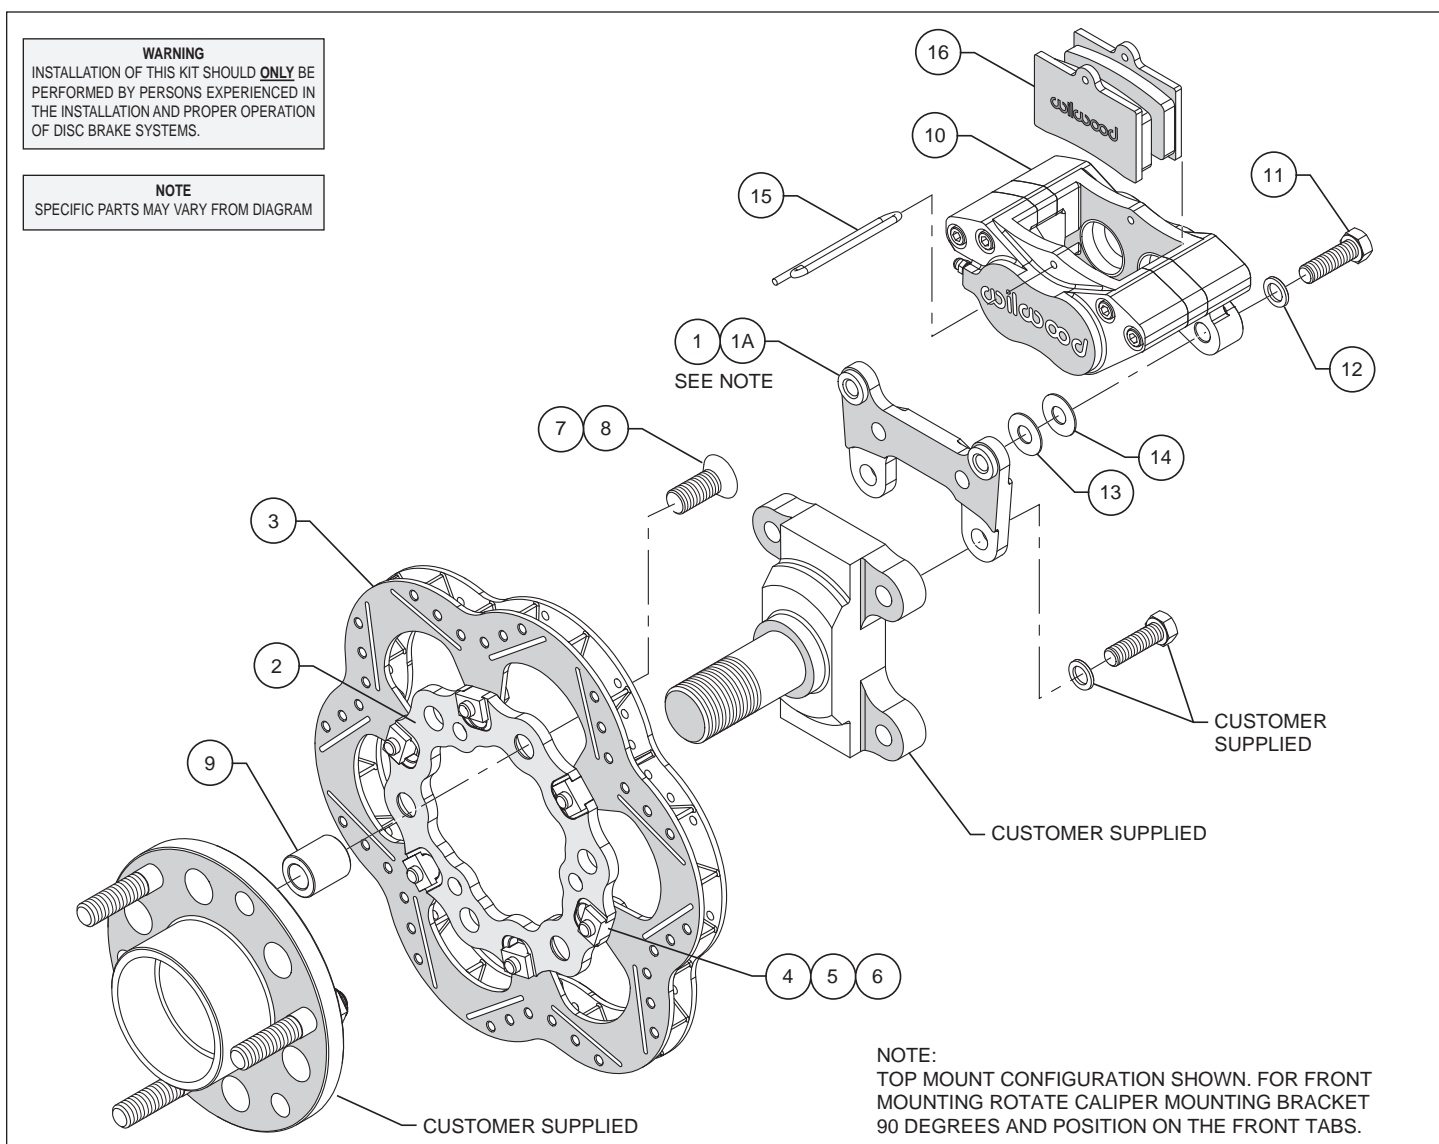

Figure 1. Typical Installation Configuration
- Install the caliper mounting bracket (1 for front mount) or (1a for top mount) onto the inboard side of the spindle mounting tabs using customer supplied bolts and washers by first coating bolt threads with red *Loctite*® 271 and sliding bolt through washer, then through caliper mounting bracket (1 or 1a) and thread into the tabs on spindle (see figure 1). The bracket must tighten squarely against the inboard side of the spindle mounting tabs. Inspect for interference from casting irregularities, machining ridges, burrs, etc. Torque bolts to specification.
- With the T-notches of the rotor adapter (2) facing away from the rotor (3), attach adapter (2) to rotor (3) using bolts (4), washers (5), and t-nuts (6) as shown in Figure 1. Finger tighten. After all t-nuts have been installed, torque bolts in an alternating sequence to 220 ± 20 **in-lbs** (~19 ± 1 ft-lb). Please refer to Wilwood's data sheet DS-669 (available at [www.wilwood.com/Pdf/DataSheets/ds669.pdf](http://www.wilwood.com/Pdf/DataSheets/ds669.pdf)) for complete t-nut bolt kit installation instructions.